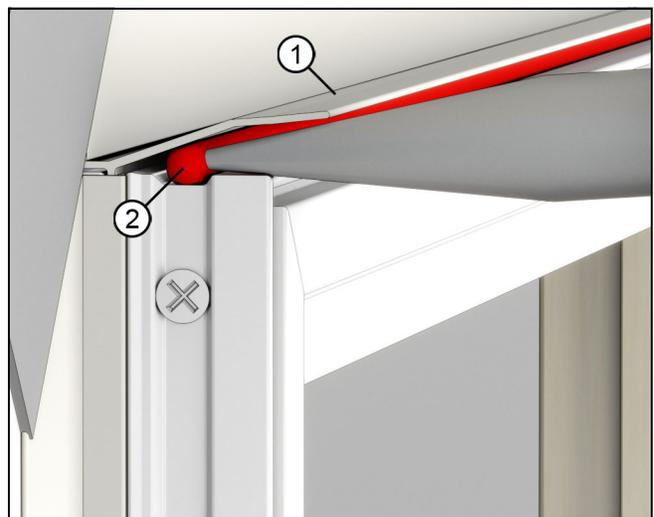

Figure 10
4. Apply a bead of sealant beneath the vinyl drip cap along the top of the head jamb as shown in Figure 10